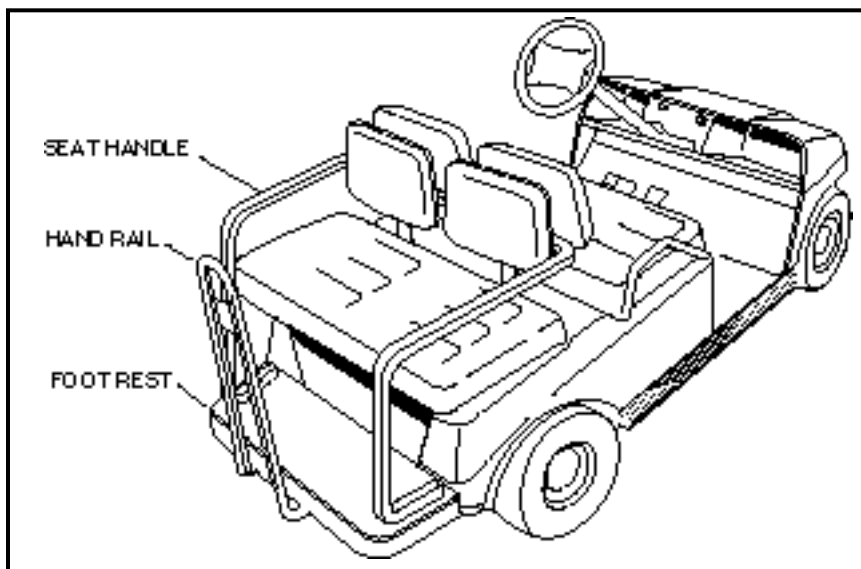

Figure 27
- PASSENGERS SHOULD HOLD ON TO SEAT HANDLES OR HAND RAILS AT ALL TIMES (**SEE FIGURE 27, PAGE 33**).